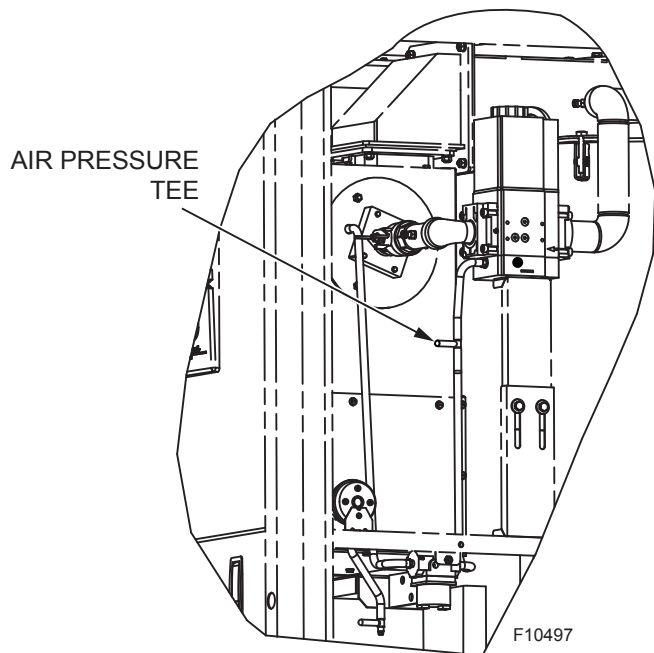

Figure 77. Air Pressure Tee
4. Attach (1) 12" scale manometer on the fan suction pressure hose. Pull black cap from the air pressure tee as shown in **Figure 77** and connect the manometer.
- Check blower suction using the manometer attached to the air pressure tee as shown in **Figure 77**, with the boiler firing at 100% input. The reading should be as noted in **Table AD** for both natural and propane gas.